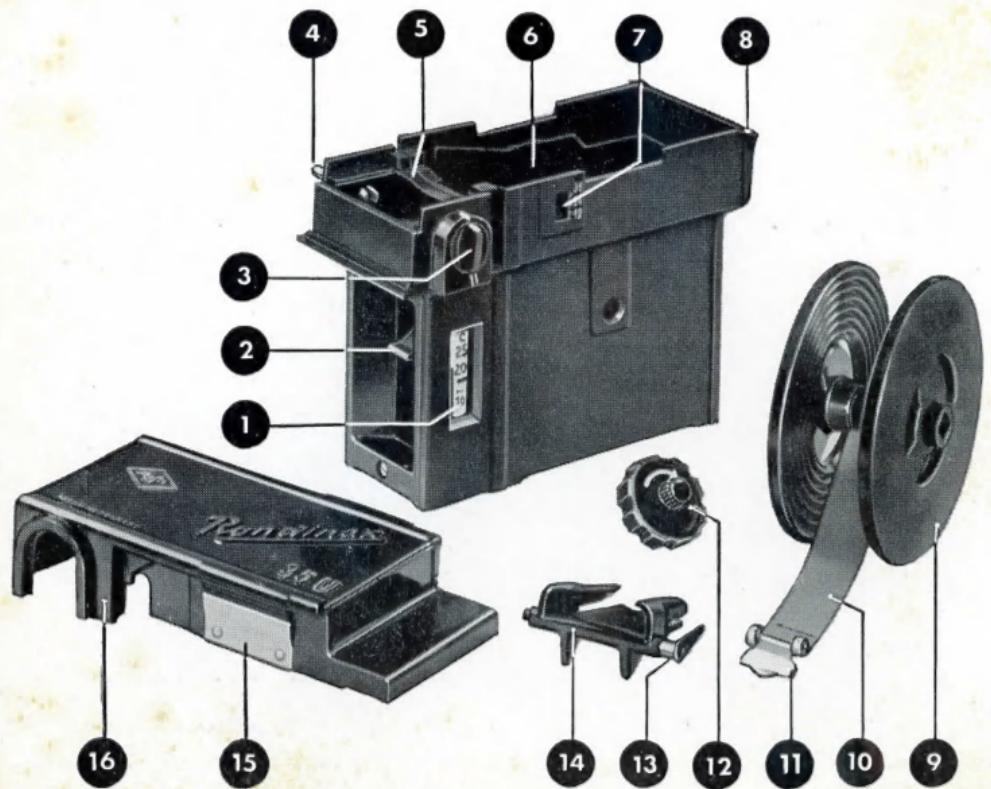
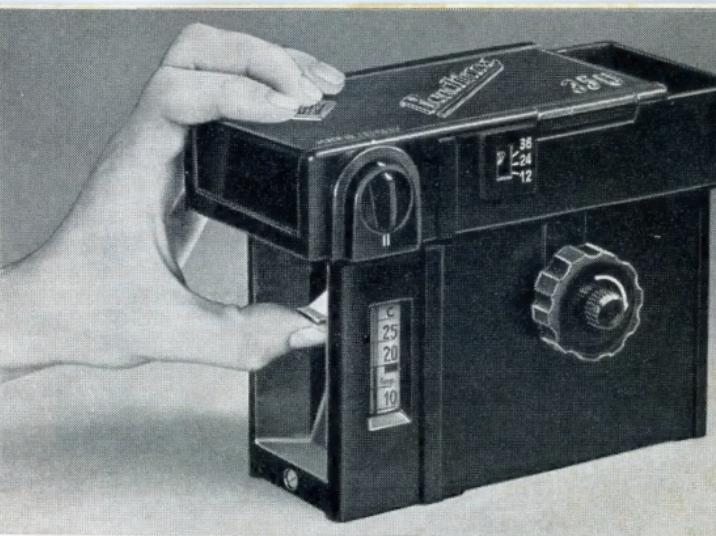

Fig. 1
Fig. 7
Make sure that when the tank was last cleaned and reassembled the sealing knob (18) was not screwed up too tight, and that the winding knob (19) turns easily, and also ensure that the cassette chamber, film guide (14), spiral drum (9) and tension band (10) (see Fig. 1) **are completely dry**.
With the lid still off, wind about 2 inches (5 cm.) of the film on to the film guide by turning the winding knob (19) (see Fig. 4) slowly in the direction of the arrow. This length of film is ample to ensure that the end of the film is threaded cleanly into the film guide. No exposed frames will be lost in this way at the beginning of the film, because in loading the camera at least one frame is wound on after the tongue is entirely on the take-up spool before the first exposure is made. Should resistance be felt even when only this short length of film has been wound in, this indicates either that the corners of the film have not been turned under or that the leading edge of the film is not gripped centrally in the film clip, or maybe even that you have forgotten to replace the film guide (14) (Fig. 1).
As soon as a considerable resistance to winding is felt, **stop turning the knob immediately**, as this indicates that the complete film has been wound on to the drum. In the case of a 36-exposure miniature film this indicator (7) (see Fig. 1) will read 36. The film must then be severed from the empty cassette by pressing the cutting lever hard upwards to a definite stop (see Fig. 7).
If only part of the film has been exposed—say, 24 frames—there is no need to develop the whole film: wind the film on to the drum until the indicator (7) (see Fig. 1) points to 24, then with the knife cut off the part to be developed; there will then be wound on the drum 24 exposed frames together with about 2 inches (5 cm.) of unexposed film.